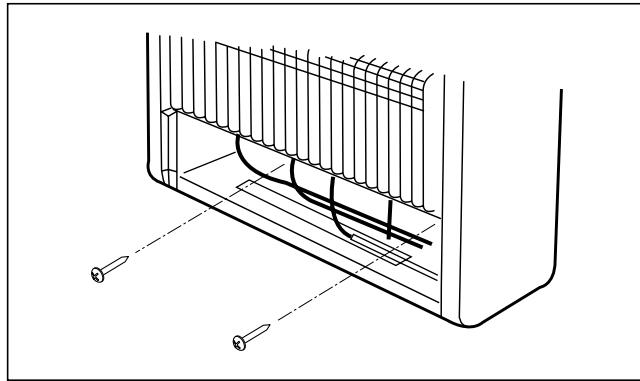

Figure 5
1. Locate two bottom mounting holes. These holes are near bottom on back panel of heater(See Figure 5).